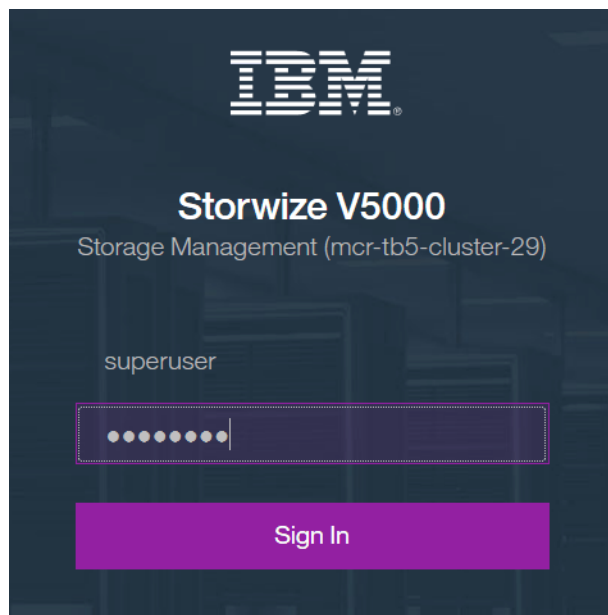

Figure 3-1 Login window
1. To log on to the management software, type the IP address that was set during the initial setup process into the address line of your web browser. You can connect from any workstation that can communicate with the system. The login window opens (Figure 3-1).